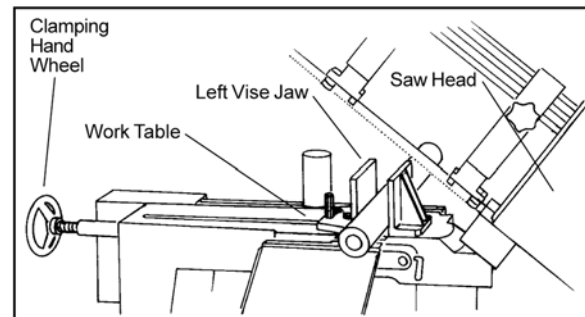

Figure 5: Securing workpiece
1. Raise saw head (Figure 5). (*Sect. 10.4* explains operating controls).